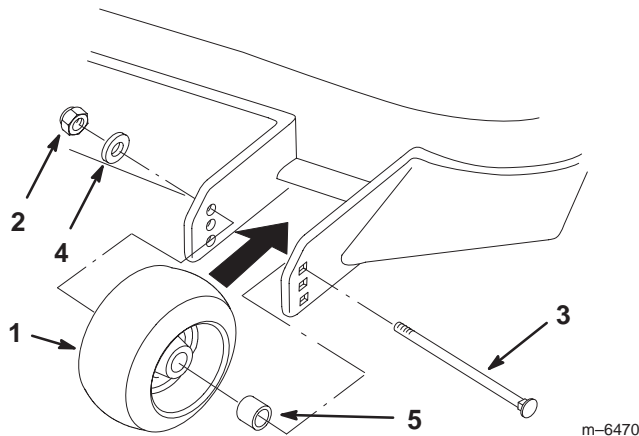

Figure 23
1. After adjusting height-of-cut, check the gage wheels so that there is a minimum of 3/8 inch (10 mm) clearance above the ground (Figures 23 and 24).
2. If adjustment is needed, remove the bolt, washer(s) and nut (Figures 23 and 24).
3. Select a hole position so the gage wheels are a minimum of 3/8 inch (10 mm) off the ground (Figures 23 and 24).
4. Install the bolt, washer(s) and nut (Figures 23 and 24).